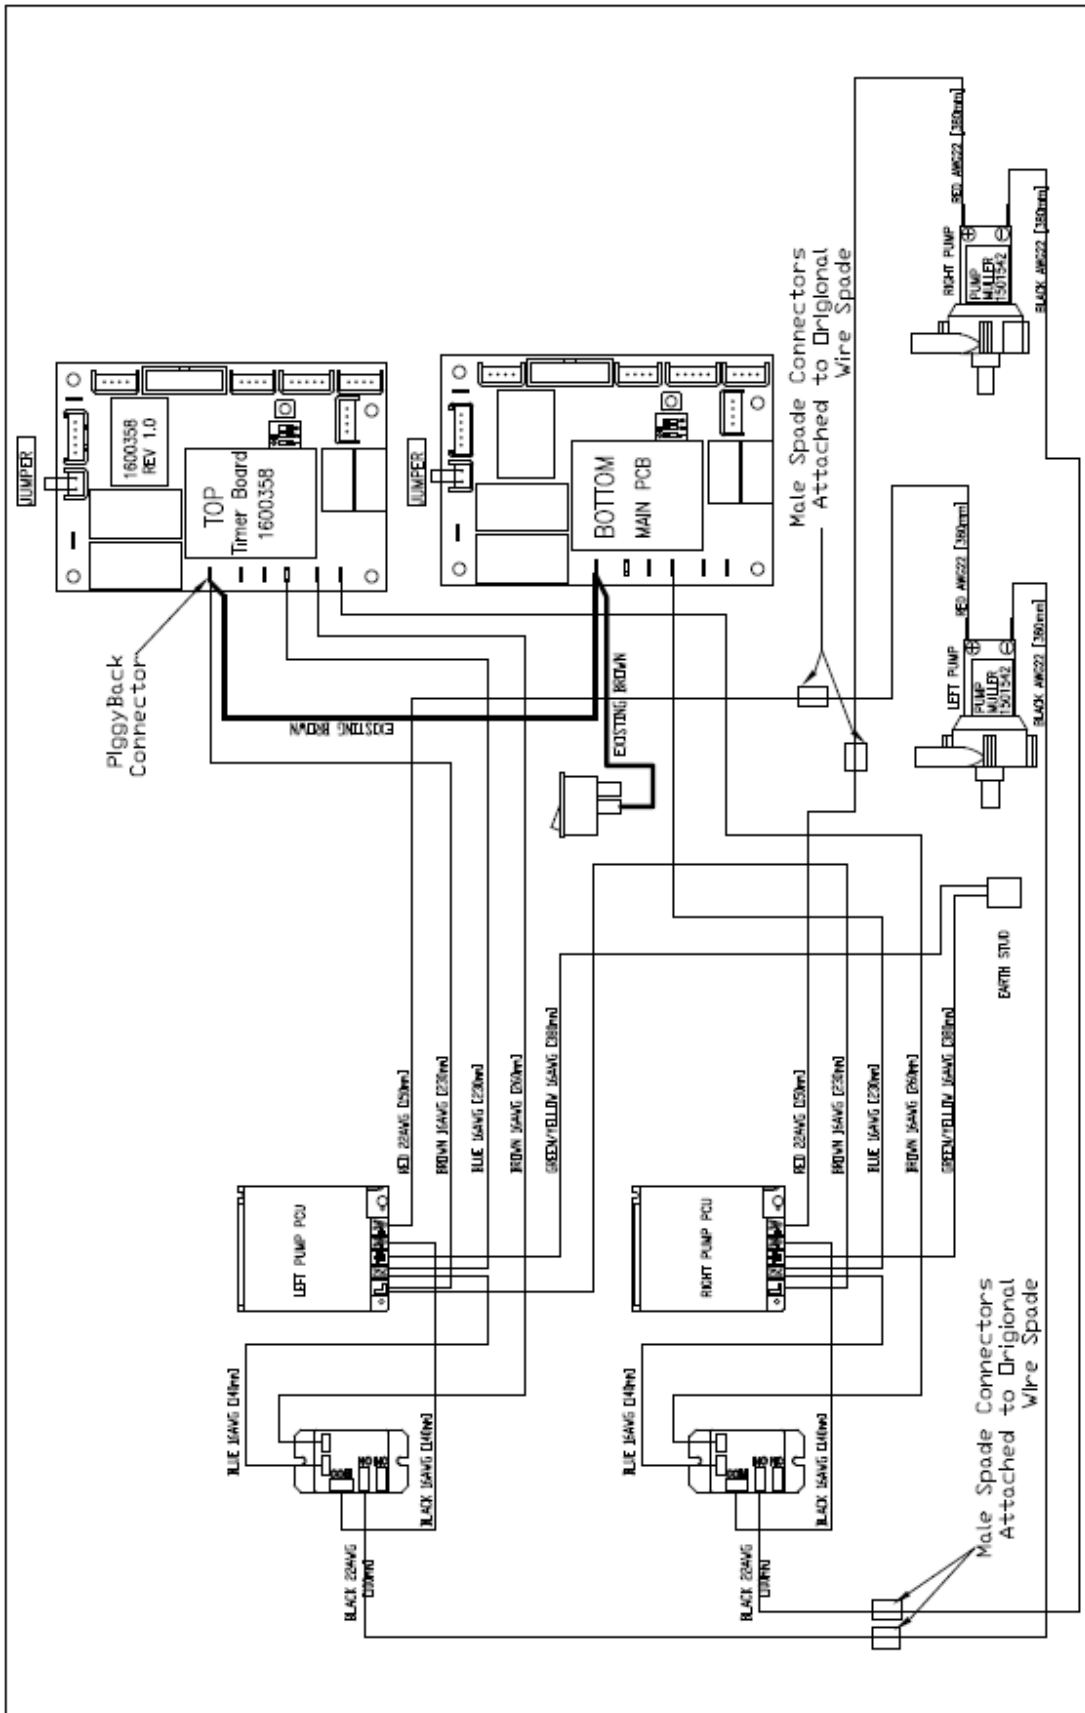

Fig 13
- Use the wiring diagram in Fig 13 to wire the new power supply to the PCB board. Use the piggy back connectors to connect the Live as shown in Fig 13. Ensure the earth cable is connected to the machine body.
- ***If replacing both PSU you will need to remove the spade connector from the right pump PSU live feed (Brown wire) and connect to the live feed of the left PSU as per Fig 13. Cut the spade off***